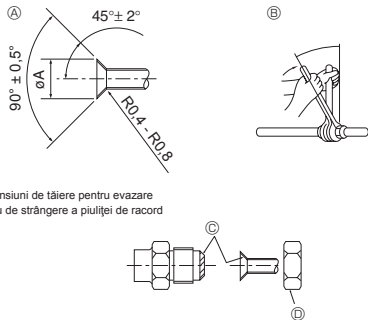

Fig. 5-1
Ⓐ (Fig. 5-1)
Ⓑ (Fig. 5-1)
5.2. Conectarea conductelor (Fig. 5-1)